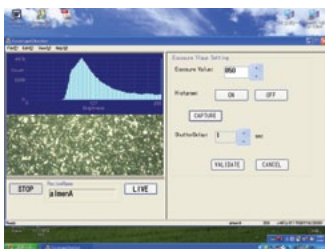

Fig.1 Setting exposure value window
The first step to making a Recipe is the exposure value has to be set with a complete coverage sample. In setting exposure value window (Fig.1), histogram of brightness can be expressed with a resolution of 256. While confirming this histogram, adjust exposure value to make the histogram peak a little bit lower than the middle value (127).